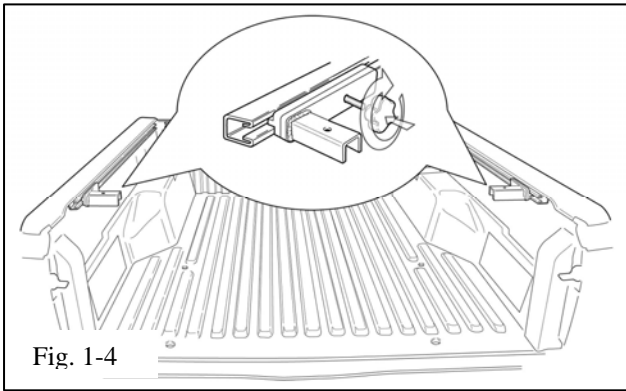

Fig. 1-4
(d) Screw a knob onto the clamp plate threaded stud. The vehicle bed side rails have internal stop detents every four inches. With the knob loose, slide the bracket assembly fore or aft to the desired location. As you tighten knob, continue to slide the bracket fore and aft until you feel the clamp plate lock into one of the rail stop detents. Tighten the knob and repeat on the other side. (Fig. 1-4)
(Fig 1-4)
- (c) The vehicle bed side rails have internal stop detents every four inches. With the knob loose, slide the bracket assembly fore or aft to the desired location. As you tighten knob, continue to slide the bracket fore and aft until you feel the clamp plate lock into one of the rail stop detents. Tighten the knob and repeat on the other side. (Fig. 1-4)